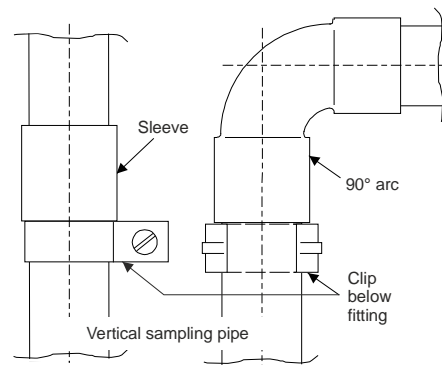

Fig. 21 Vertical sampling pipe
- If the sampling pipe or parts thereof is laid out vertically (e.g. in a riser), make sure the tubes cannot slide down (secure clips directly below the fittings as shown in **Fig. 21**).